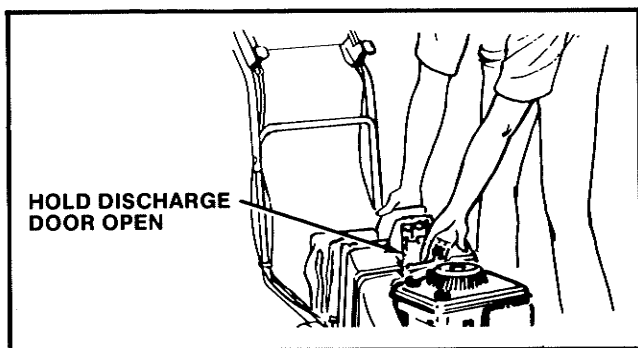

FIGURE 5
- Hold the bag handle and the adapter handle in the same hand. (Figure 5.)
- Open the discharge door on the mower with your other hand. (Figure 5.)